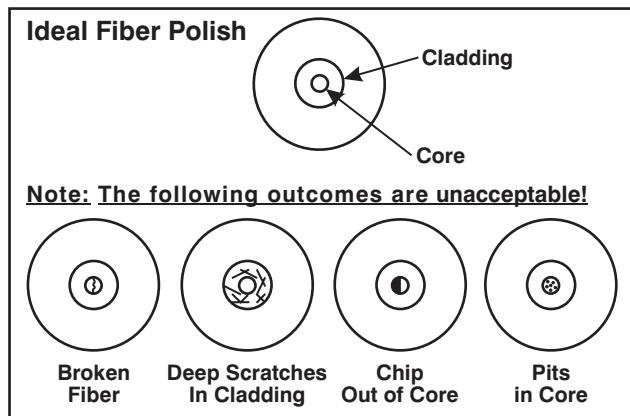

FIGURE 3 FIBER POLISH FINISH
- 3.05 Then insert ferrule straight up into 100X or 200X inspection microscope and inspect fiber core. The core & cladding should be free of scratches and chips (See Figure 3).